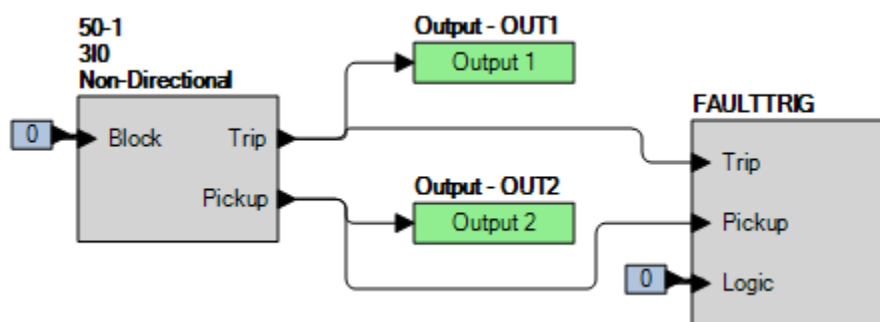

Figure 65-2. BESTlogicPlus Settings (3I0 Mode)
- Step 2: Use *BESTCOMSPi* to configure the *BESTlogicPi* programmable logic shown in Figure 65-2.
- Step 4: Prepare to monitor the 50-1 function operation. Operation can be verified by monitoring OUT2 (see Figure 65-2).